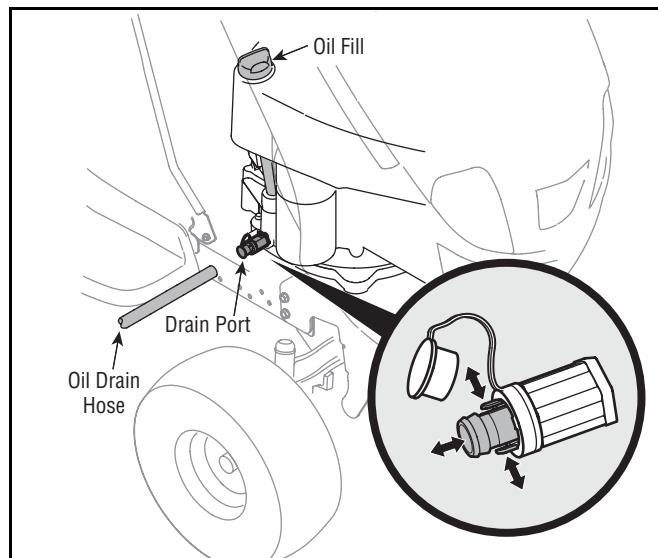

Figure 17
- Pop open the protective cap on the end of the oil drain valve to expose the oil drain port. See Figure 17.
- Pinch the tabs on the oil drain valve, then pull outward to begin draining oil. See Figure 17.